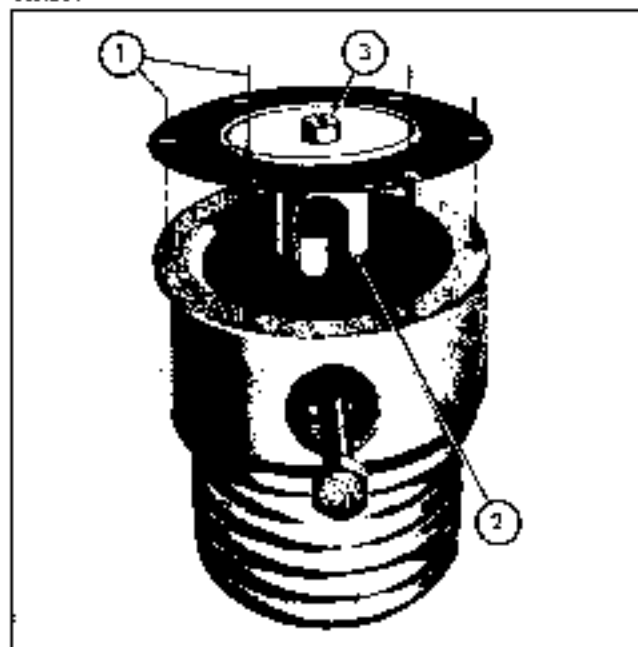

Fig. 145
d. Temporarily install inlet orifice, using a 1/4"-20 bolt, being sure keyway in orifice is lined up with dowel pin in body. Apply a coat of oil to piston and "O" ring, then install piston in housing so it straddles inlet orifice (Fig. 145). Turn diaphragm as necessary to align holes near edge with six holes in body. Tighten center screw and remove diaphragm and piston assembly and inlet orifice.
f. Reinstall diaphragm and piston assembly as described in paragraph "d". Be sure piston straddles inlet opening as indicated in Fig. 145. Install diaphragm cover, aligning marks made at disassembly. Reinstall diaphragm spring and adjusting bonnet.